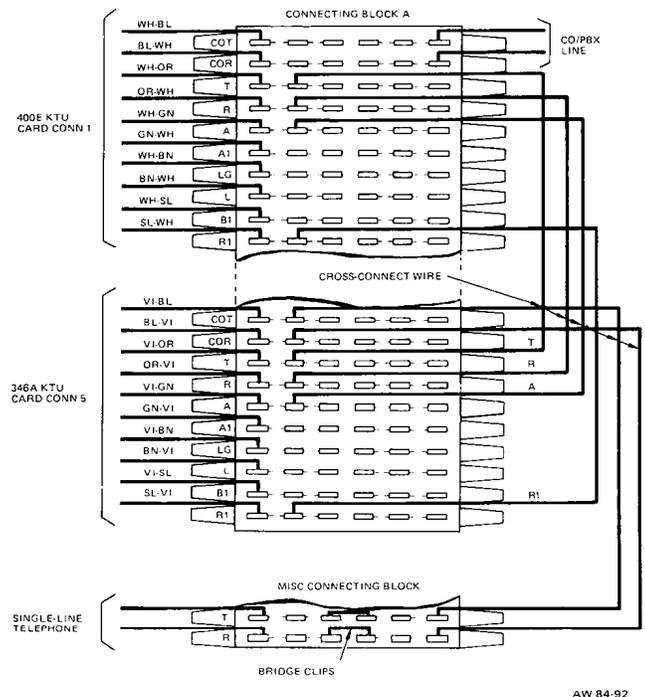

Figure 13: Connecting Details, 346A KTU
- (1) Connect the T, R, A, and R1 terminals to the T, R, A, and R1 terminals for the associated line card KTU.
- (2) Connect the COT and COR terminals to the MISC connecting block on the MDF for connection to the single-line telephone. (See Figure 13.) Multiple the leads to all assigned single-line telephones.